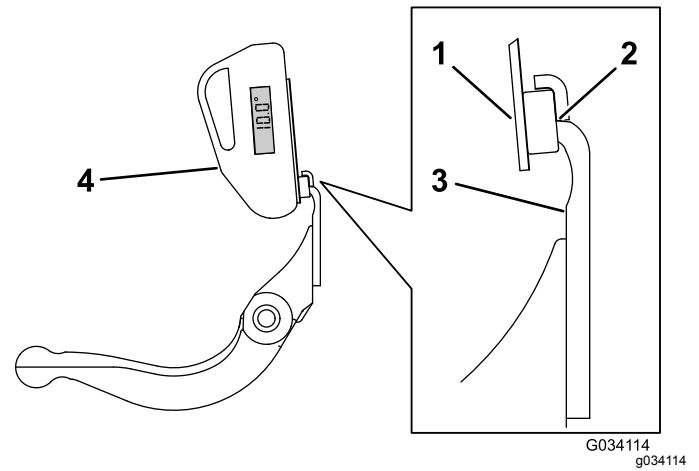

Figure 28
3. Place the angle-indicator mount on the edge of the bedknife so that the edge of the magnet mates with the edge of the bedknife (Figure 28).
4. Place the angle indicator on the mount as shown in Figure 28.